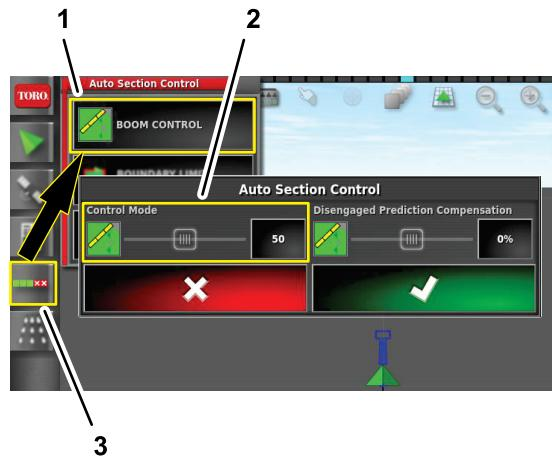

Figure 107
2. Press the BOOM CONTROL icon (Figure 107).